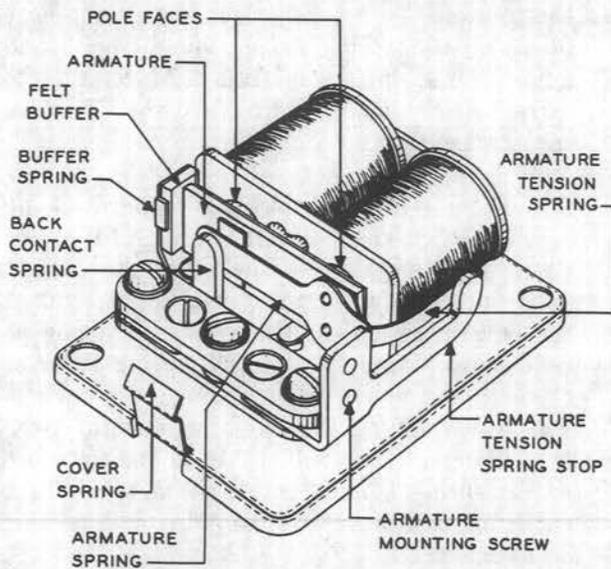

Fig. 2—7G Buzzer
2.04 Felt Buffer Pressure (7G Buzzer): Fig. 2—With the armature in the normal position, the pressure of the felt buffer against the armature shall be